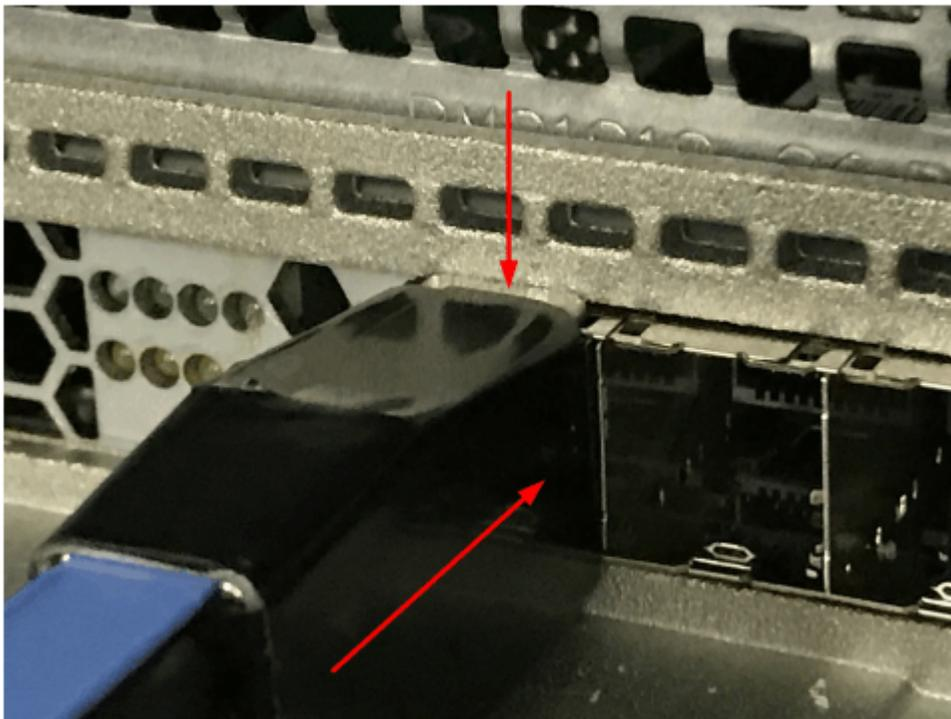

Figure 63. Pushing the SAS cable latch closed
- Insert the connector gently until it clicks into place. If you feel resistance, the connector is probably oriented the wrong way. Do not force it. See Figure 63 on page 105.